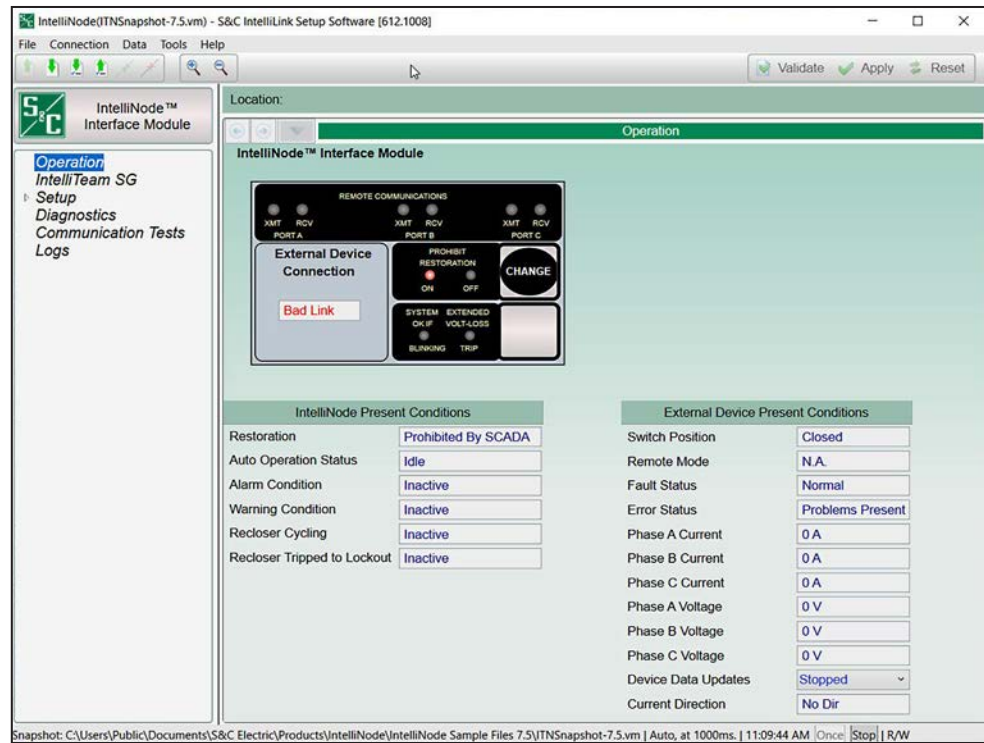

Figure 1. The *Operation* screen for the IntelliNode Interface Module.
- STEP 7.** Enter the username and password, and the IntelliLink Setup Software will open the *Operation* screen. See Figure 1 on page 17. Contact S&C Electric Company when the default username and password are needed.
The *Operation* screen shows the present status of various switch control settings, any existing fault, and error conditions. See Figure 1.